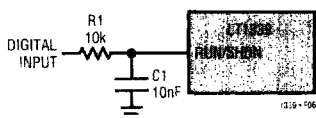

Figure 6. Digital Input Shutdown Integration Control
The circuit in Figure 6 is an example of a digital control integration stage at the RUN/SHDN input. The integrator has a  $\tau = (10)(10^3) \cdot (10)(10^{-9}) = 100\mu\text{s}$ . This circuit technique, however, delays initiation of controller shutdown about 125 $\mu\text{s}$  from the reception of the shutdown signal (5V to 0V transition).